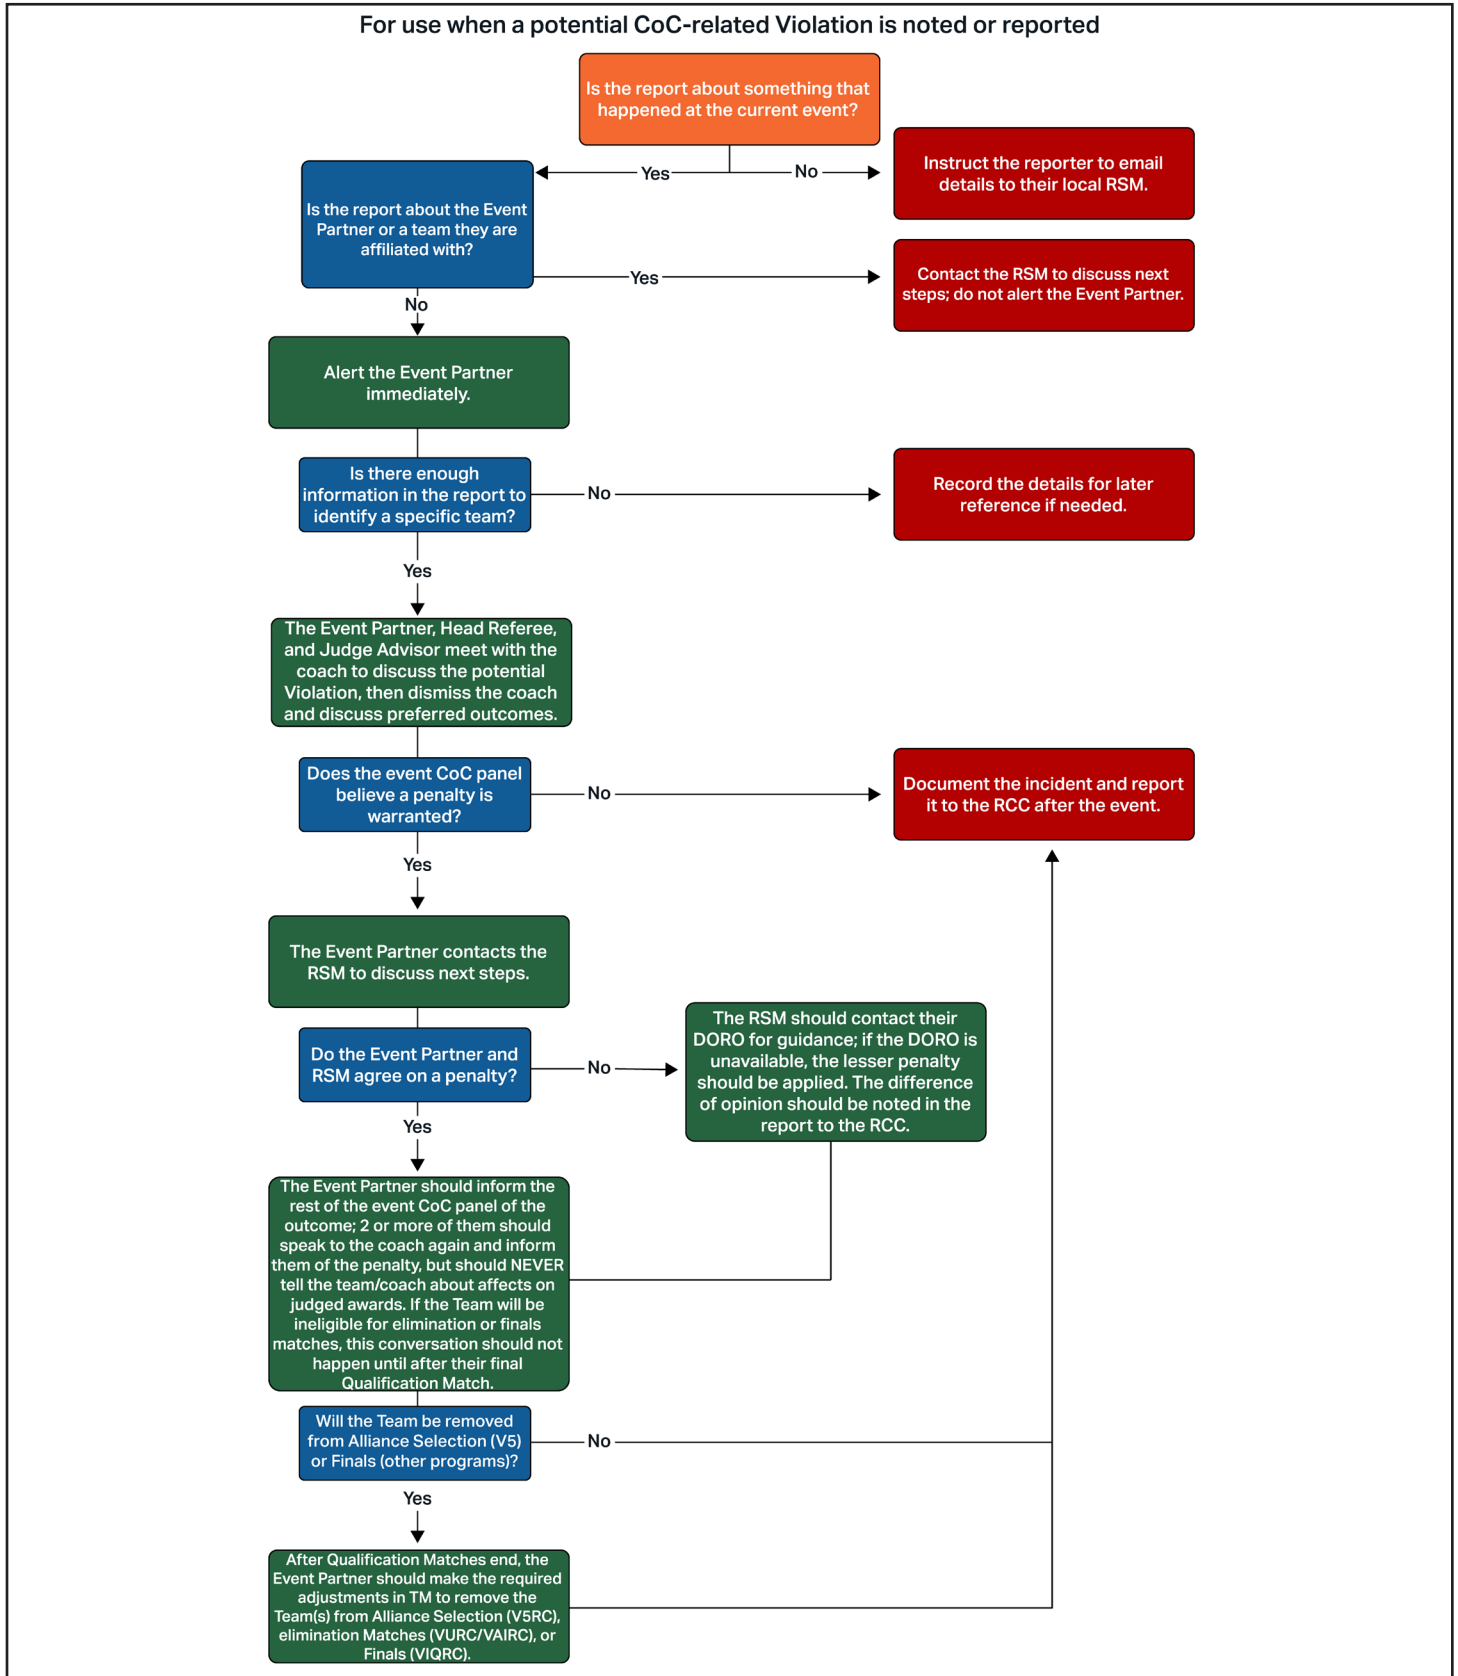

Figure V-3: The process for handling CoC-related Violations.
1. *Major Violations* should be handled through the *CoC-related Violation* process (see figure V-3).
1. <S2> *Violations* should be handled through the *CoC-related Violation* process (see figure V-3).
1. Any *Violation* of <G1> may be considered a *Major Violation* and should be addressed on a case-by-case basis. *Teams* at risk of a <G1> *Major Violation* due to multiple disrespectful or uncivil behaviors will usually receive a "final warning", although the *Head Referee* is not required to provide one. All <G1> *Major Violations/Disqualifications* should be handled through the *CoC-related Violation* process (see figure V-3).
1. Potential *Violations* of this rule will be reviewed on a case-by-case basis. By definition, all *Violations* of this rule become *Match Affecting* as soon as a *Robot* which was built or programmed by an *Adult* scores points in a *Match*. All reported and/or suspected <G2> *Violations* should be handled through the *CoC-related Violation* process (see figure V-3).
2. *Violations* of this rule will be evaluated on a case-by-case basis, in tandem with the RECF Student Centered Policy as noted in <G2>, and the REC Foundation Code of Conduct as noted in <G1>. All reported and/or suspected <G4> *Violations* should be handled through the *CoC-related Violation* process (see figure V-3).
1. *Teams* believed to be in *Violation* of this rule should be handled through the *CoC-related Violation* process (see figure V-3).
1. A *Team* that circumvents a *Robot* rule for a competitive advantage should receive an immediate *Disqualification* for the current *Match*. In addition to the immediate *Match Disqualification*, all <G6> *Violations* should begin the *CoC-related Violation* process (see figure V-3).